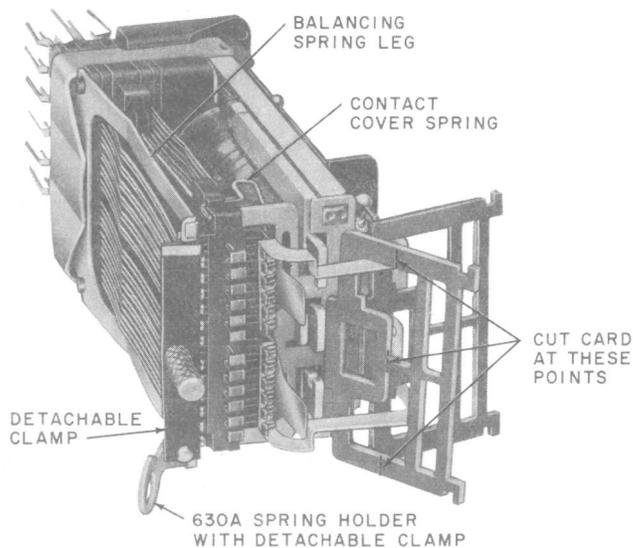

Fig. 5—AL-Type Relay—Card Removable Tools Mounted in Place With Detachable Clamp on 630A Spring Holder
3.13 Hold the clamp associated with the spring holder by the handle with the notch at the bottom. Place the metal loop at the top of the clamp on the end of the spring holder that extends out above the make-contact springs. Move the clamp downward so that the notch in the bottom of the clamp engages the pin located adjacent to the handle on the spring holder. The clamp will hold the make-contact springs in their proper notches on the spring holder. See Fig. 5.
3.14 Using the 628A balancing spring lifter in the right hand, place the outer end of the top leg of the balancing spring in the notch at the top of the spring holder as shown in Fig. 5. Similarly, place the outer end of the bottom leg of the balancing spring in the notch at the bottom of the spring holder.
hangs freely on the 629A and 629B spring holders. Cut this card with the 5-inch diagonal pliers at the three points indicated in Fig. 5. Remove the portion of the card between the holders with the tweezers.